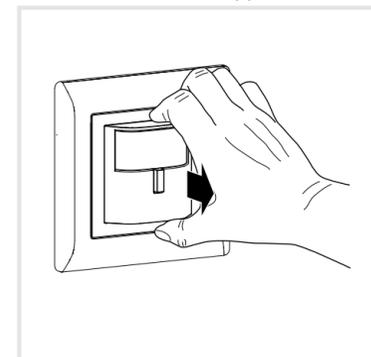

Figure 8: Dismantling of cover
- Remove the cover (Figure 8).